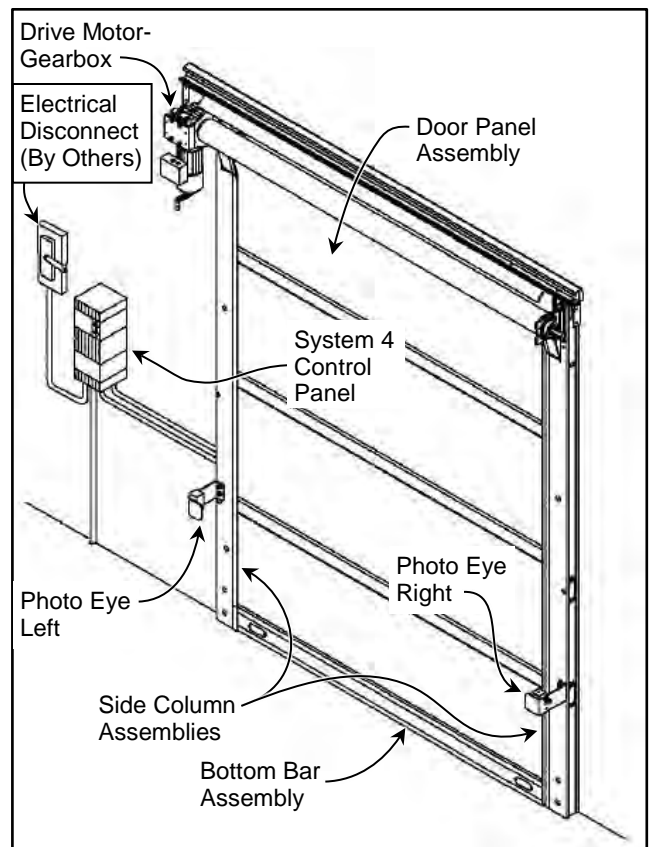
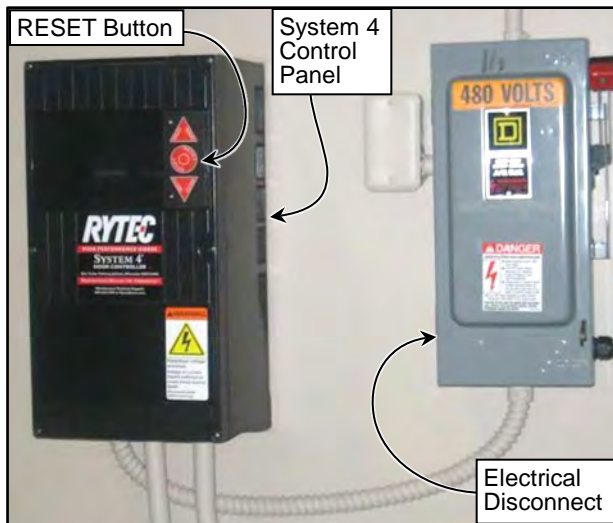

Figure 1
Figure 2
To obtain your DOOR SERIAL NUMBER, there are four (5) universal locations that this information can be attained. These are on the left & right side column assemblies (at approximately 5 ft/eye level), on the drive motor assembly, both outside & inside the door cover of the System 4® Control panel. (See Figure 1)
Figure 1 shows the location of the major components of your PredaDoor® NXT® door. This illustration also shows the general placement of the associated control sub-assemblies for a typical installation.
The PredaDoor® NXT® Door is equipped with the Rytec System 4® Drive & Control, a solid-state, microprocessor-based control system designed exclusively to operate Rytec high-performance doors. It provides connections for multiple activators, close-delay timers, and status indicators. All command functions to operate the drive and control system are software controlled. For information on control panel operation, see the Rytec "System 4® Drive & Control Installation & Owner's Manual. (See Figure 1 & Figure 2)
field-installed on the back/rear. Each set of photo eyes consist of an emitter module & a receiver module. The purpose of these photo eyes is to serve as a safety device. They will prevent the door from closing or, if the door is closing, reverse the direction of the door if a person or object crosses/breaks one of the photo eye beams and it will move to the fully open position. The photo eyes are not meant to be used as activators to open or close the door & are not active when the door is closed. (See Figure 1)
2. Then press and hold the RESET (●) button on the control panel to reset the control system. (See Figure 2)